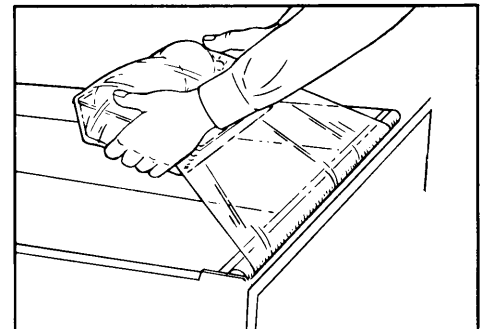

Fig. 5
4. In a continuous motion, pull the film up and over the item to be wrapped and tuck 2-3" under the far edge of the package (Fig. 5).